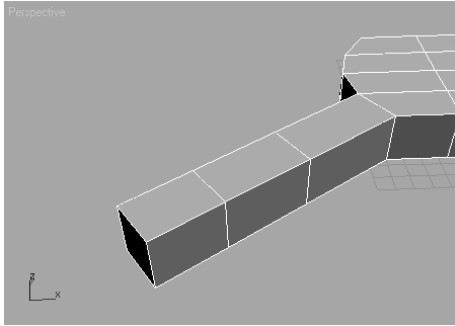

Figure 4.78
3. We are going to extrude the first finger so that it has three sections, so instead of doing one extrude, we are going to do three back to back. This will give the finger more segments with which to work. If you look at your own finger, you will notice the lower joint is the biggest joint, getting smaller toward the tip of the finger. In the Settings dialog box, set the first Amount to 60 units. The Setting dialog box allows you to interactively perform the functions, so you can see the extrude before you apply it. The 60 unit extrude looks good, so click Apply. This keeps the Settings window open. Go to the Extrusion Amount and enter 50; this will change the extruded segment to 50 units. Click Apply again for the second extrusion. Change the Extrude Amount to 40, and press OK for the last extrusion of the index finger. Figure 4.78 shows the first finger.